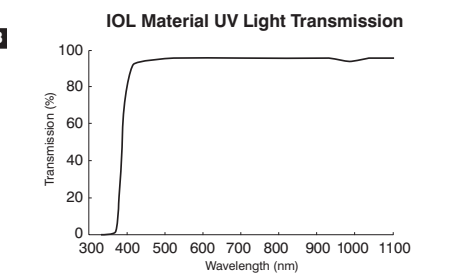

Figure 8
- UV light transmission: shown in Figure 8 (UV 10% cut-off is 380 nm)